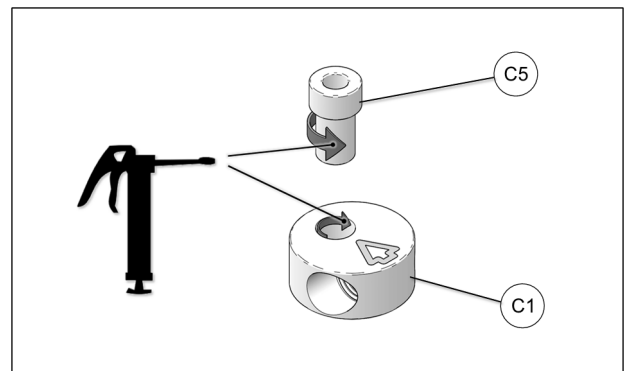

Fig. 23
12. Apply grease evenly all around step spacer bushing (C5) and in hole of aluminum disk (C1) when assembling these parts together. See Fig. 23